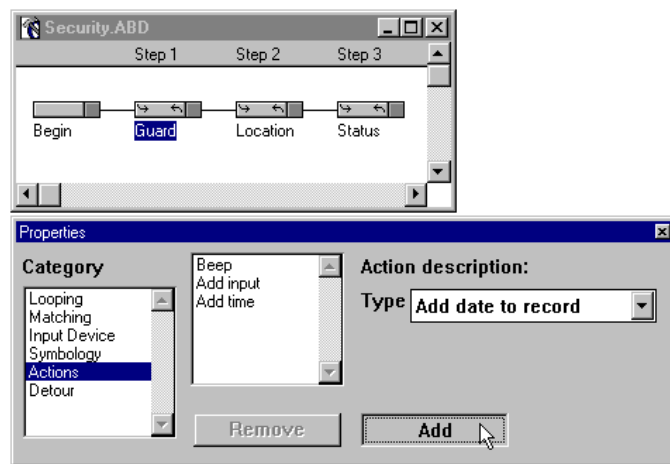
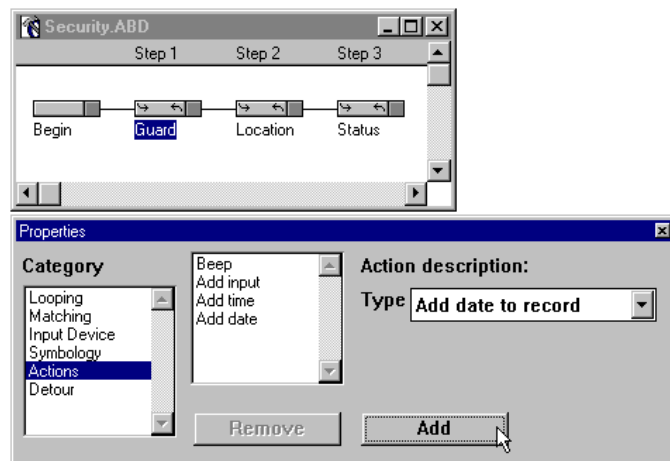

Figure 3-28 Actions Property - Add Action to Action List
Figure 3-29 Actions Property - Action Added to Action List
25. Click **Add** (Figure 3-28) to add the **Add date to record** action to the action list (Figure 3-29).